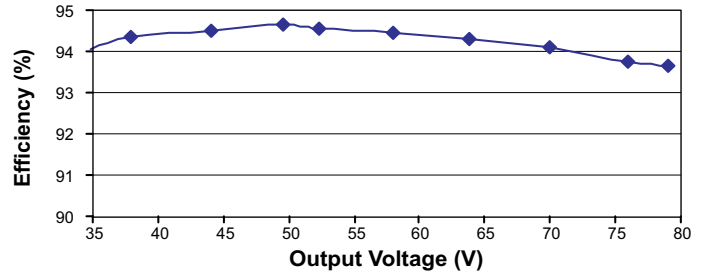
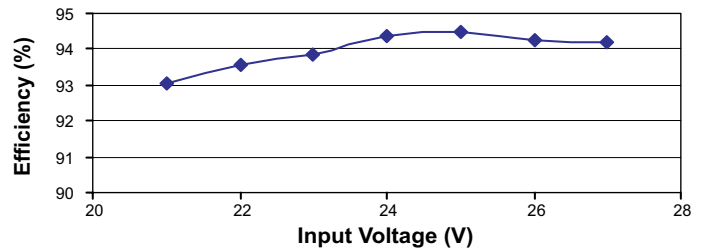

Fig. 1 Efficiency vs. Output Voltage
Fig. 2 Efficiency vs. Input Voltage
**1. Efficiency:** The efficiency of the converter at various LED string voltages are shown in Fig.1 (measured at the nominal input voltage of 24V). Fig.2 shows the full load efficiency of the converter at varying input voltages. The minimum efficiency of 93% for the converter occurs at 21V input and full load output.